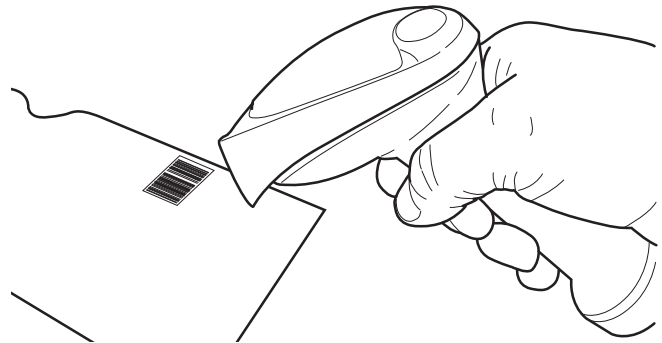

Fig. 8
5. Scan the barcode of the product within 10 seconds (Fig. 8). The scanned barcode will now be displayed in a number code beneath the program number and name.
1. Scan barcode of product (Fig. 8). The oven will activate the program associated and will start automatically in preheat mode.